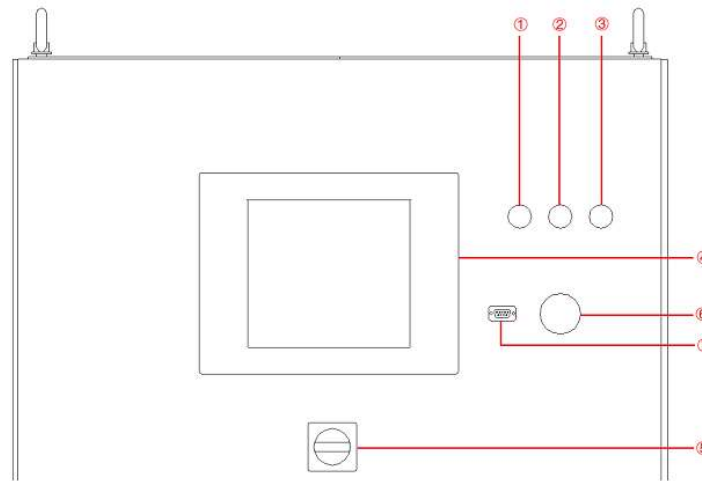
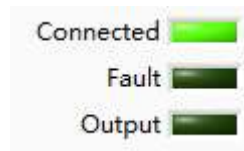

Figure 3-4 Front Panel
Figure 3-5 Indicators on TFT Touch panel
A few seconds after the power is initialized, the control unit and touch screen work, the power supply is standby. If the power supply communication is normal, the white light (Figure 3-4①) is always on, and the "Connect" indicator on the TFT touch panel is green (Figure 3-5).